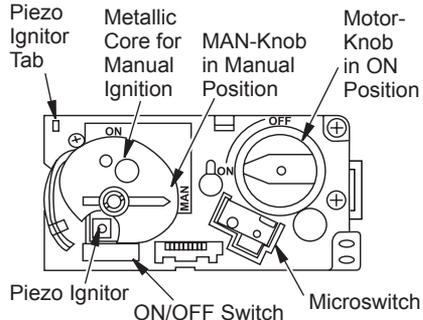

Figure 19 - Control Valve
4. Wait (5) minutes to clear any gas and then smell for gas around heater and near floor. If you smell gas, STOP! follow "B" on page 15. If you do not smell gas, go to the next step.
5. Make sure ON/OFF switch is in "-" (ON) position.
6. MAN-knob (valve) in MAN position, a metallic core is visible (see Figure 19).
1. Disconnect ignitor cable from receiver and connect to Piezo Ignitor Tab (see Figure 19 and *Wiring Diagram* on page 24).
5. Wait (5) minutes to clear any gas and then smell for gas around heater and near floor. If you smell gas, STOP! follow "B" on page 15.
7. MAN-knob on valve is in MAN position (see Figure 19), When in MAN position you can see a metallic core.